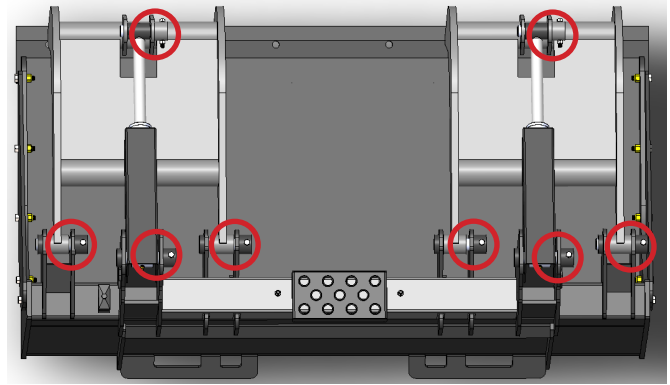

Figure 1
The Severe Duty Grapple Buckets have eight (8) grease points. These points are circled in Figure 1.